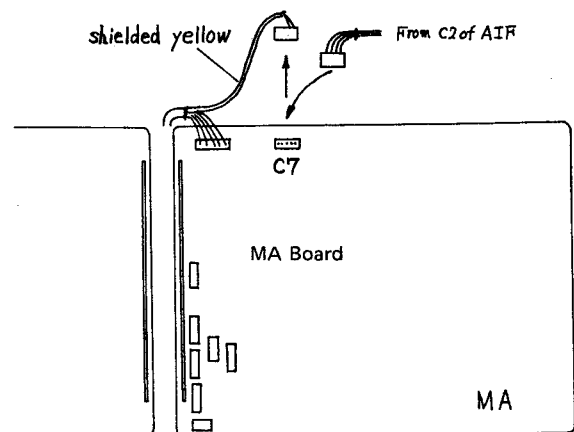

Fig. 10
- 18B. For models FS-200, FS-100 (see figure 10). Disconnect the 5 pin socket to connector C7 of the MA circuit board. Using tape or a cable tie, secure this cable in a location where it will not generate rattles, or short circuit possibilities (This connector is not used). Now, connect the loose end of the 5 conductor cable connected to C2 on the AIF circuit board in step #16, to connector C7 of the MA circuit board. Then go to step #19.